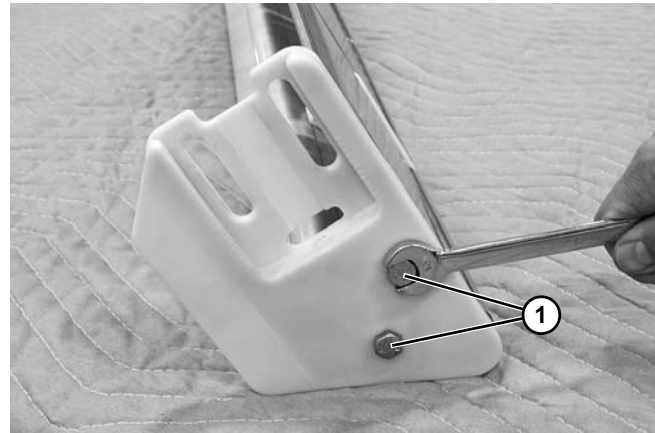

Figure 85
- Remove headplate bolts (Figure 85, item 1).